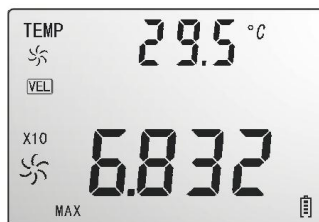

Figure 4
(1) When measuring maximum value of wind velocity, a "MAX" will be shown on the upper LCD screen, as shown in figure 4